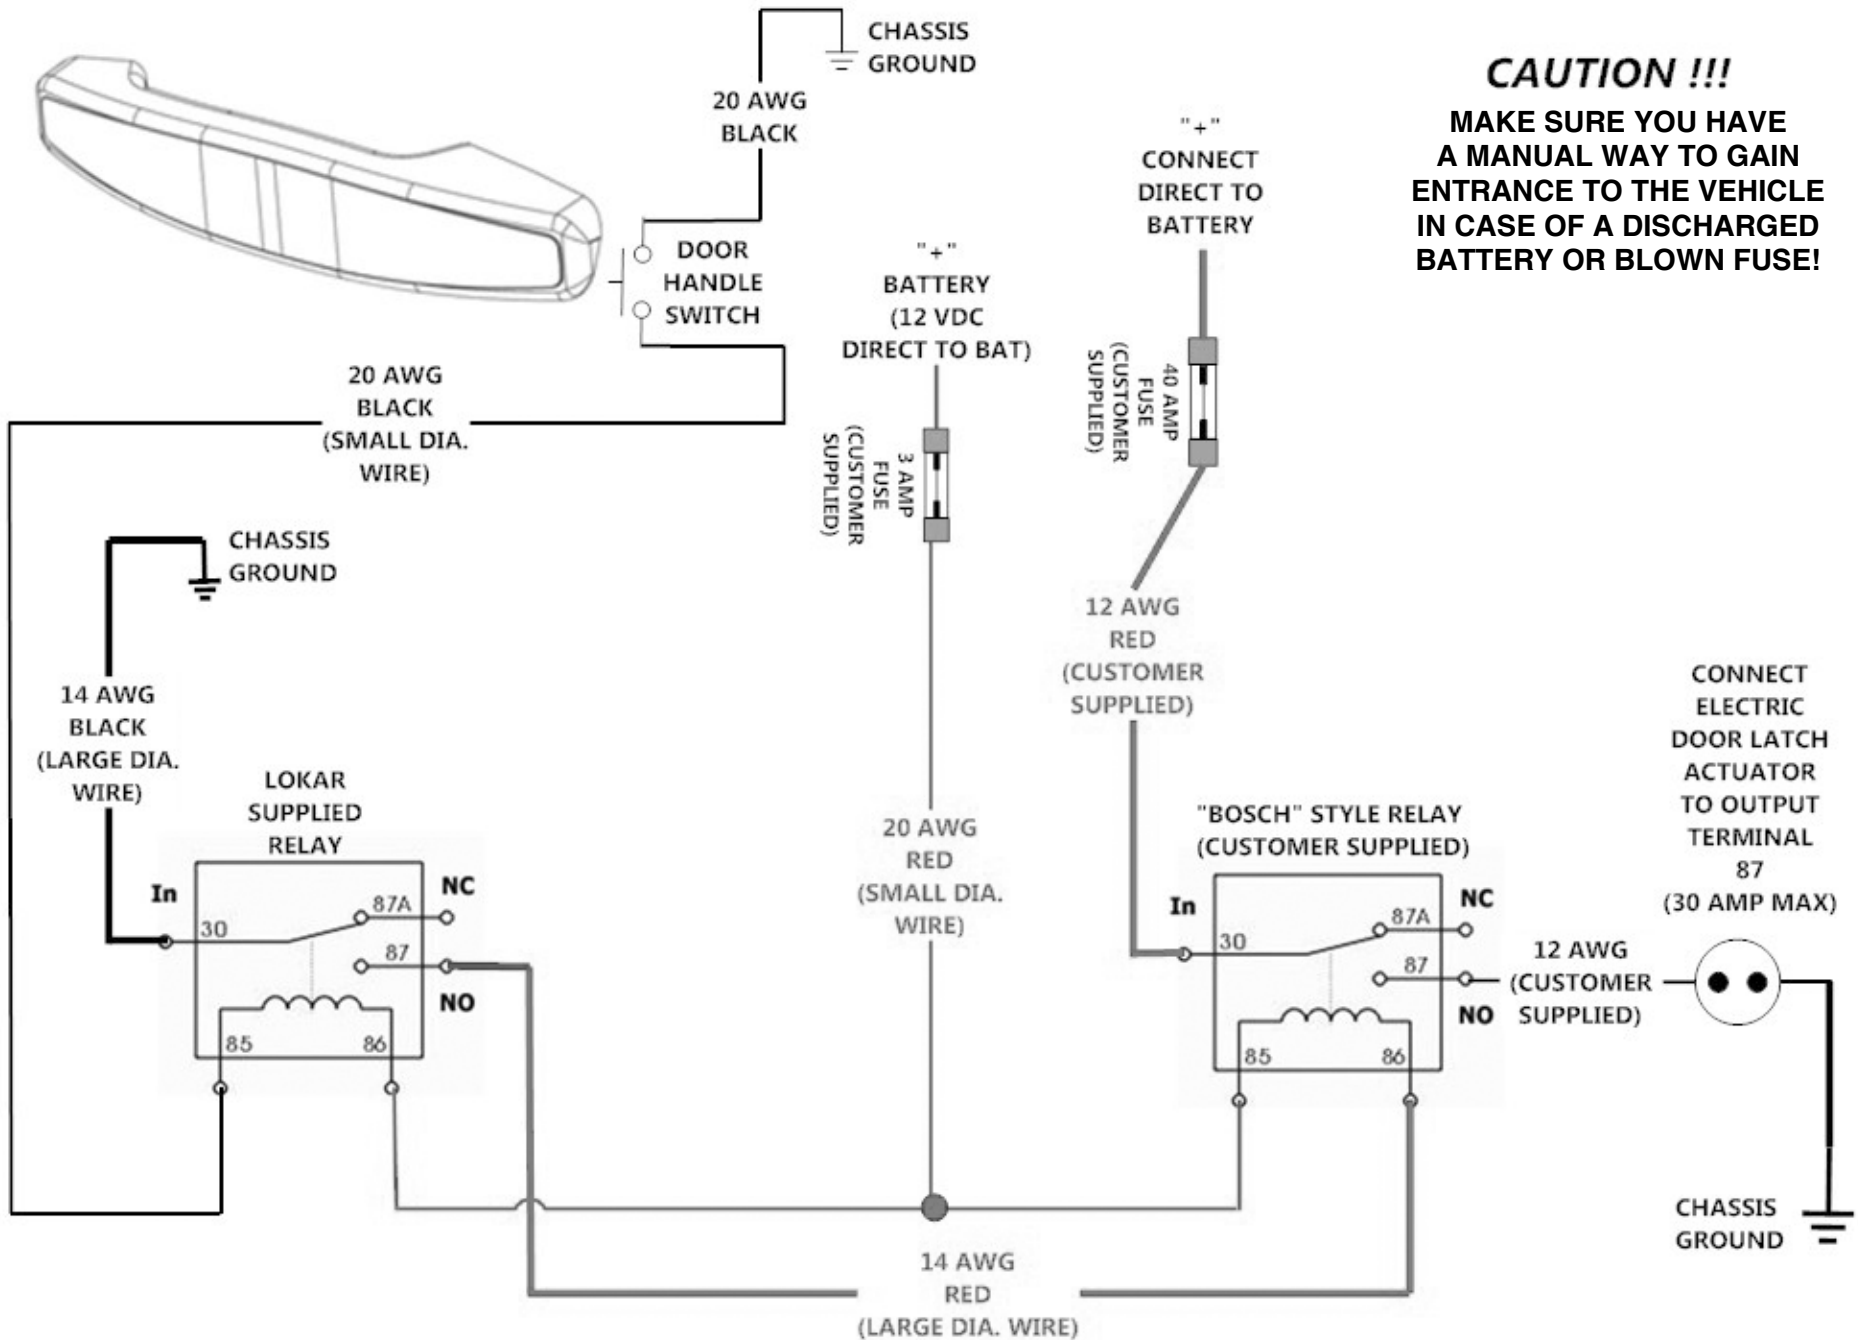

Fig. 7
**Step 6:** The Lokar Door Handle is designed to work with a common five terminal, "Bosch" style relay (not supplied) that connects to the electric door solenoid. Refer to the supplied wiring diagram. **Fig. 7**